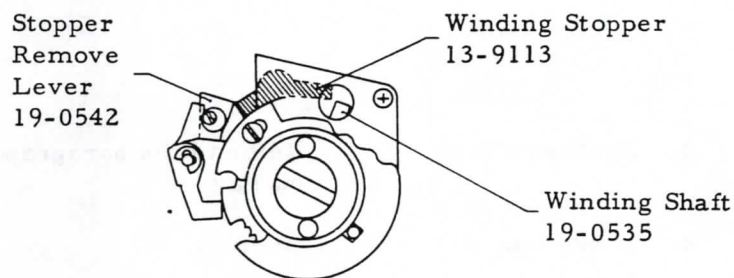

Fig. 11
- 1) At the position of S to 0 on the Film Counter, the Winding Stopper should be off the Winding Shaft through Stopper Remove Lever 19-0542 together with continuous winding. (Fig. 11).